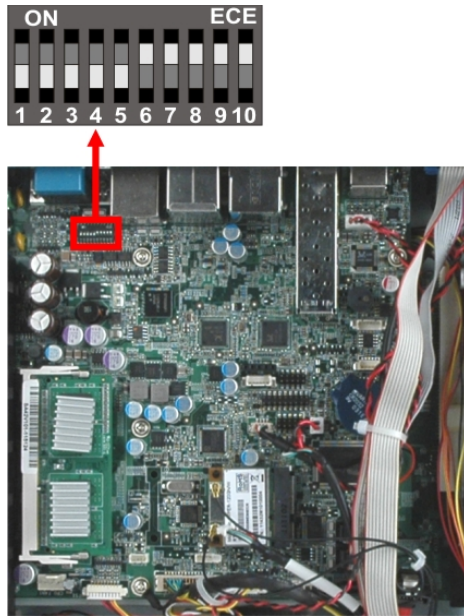

Figure 3-35: COM3 RS-232/422/485 Serial Port Select Switch Location
- Jumper Location:** See **Figure 3-35**
The COM3 RS-232/422/485 Serial Port Select jumper location is shown in **Figure 3-35**.